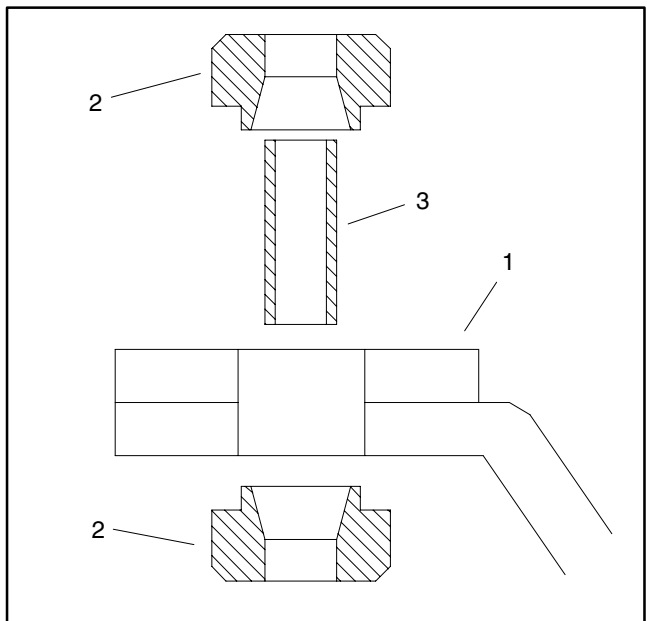

Figure 12
A. Make sure that engine mounts are assembled to mounting straps correctly (Fig. 12). Position engine mounting plate assembly under machine.